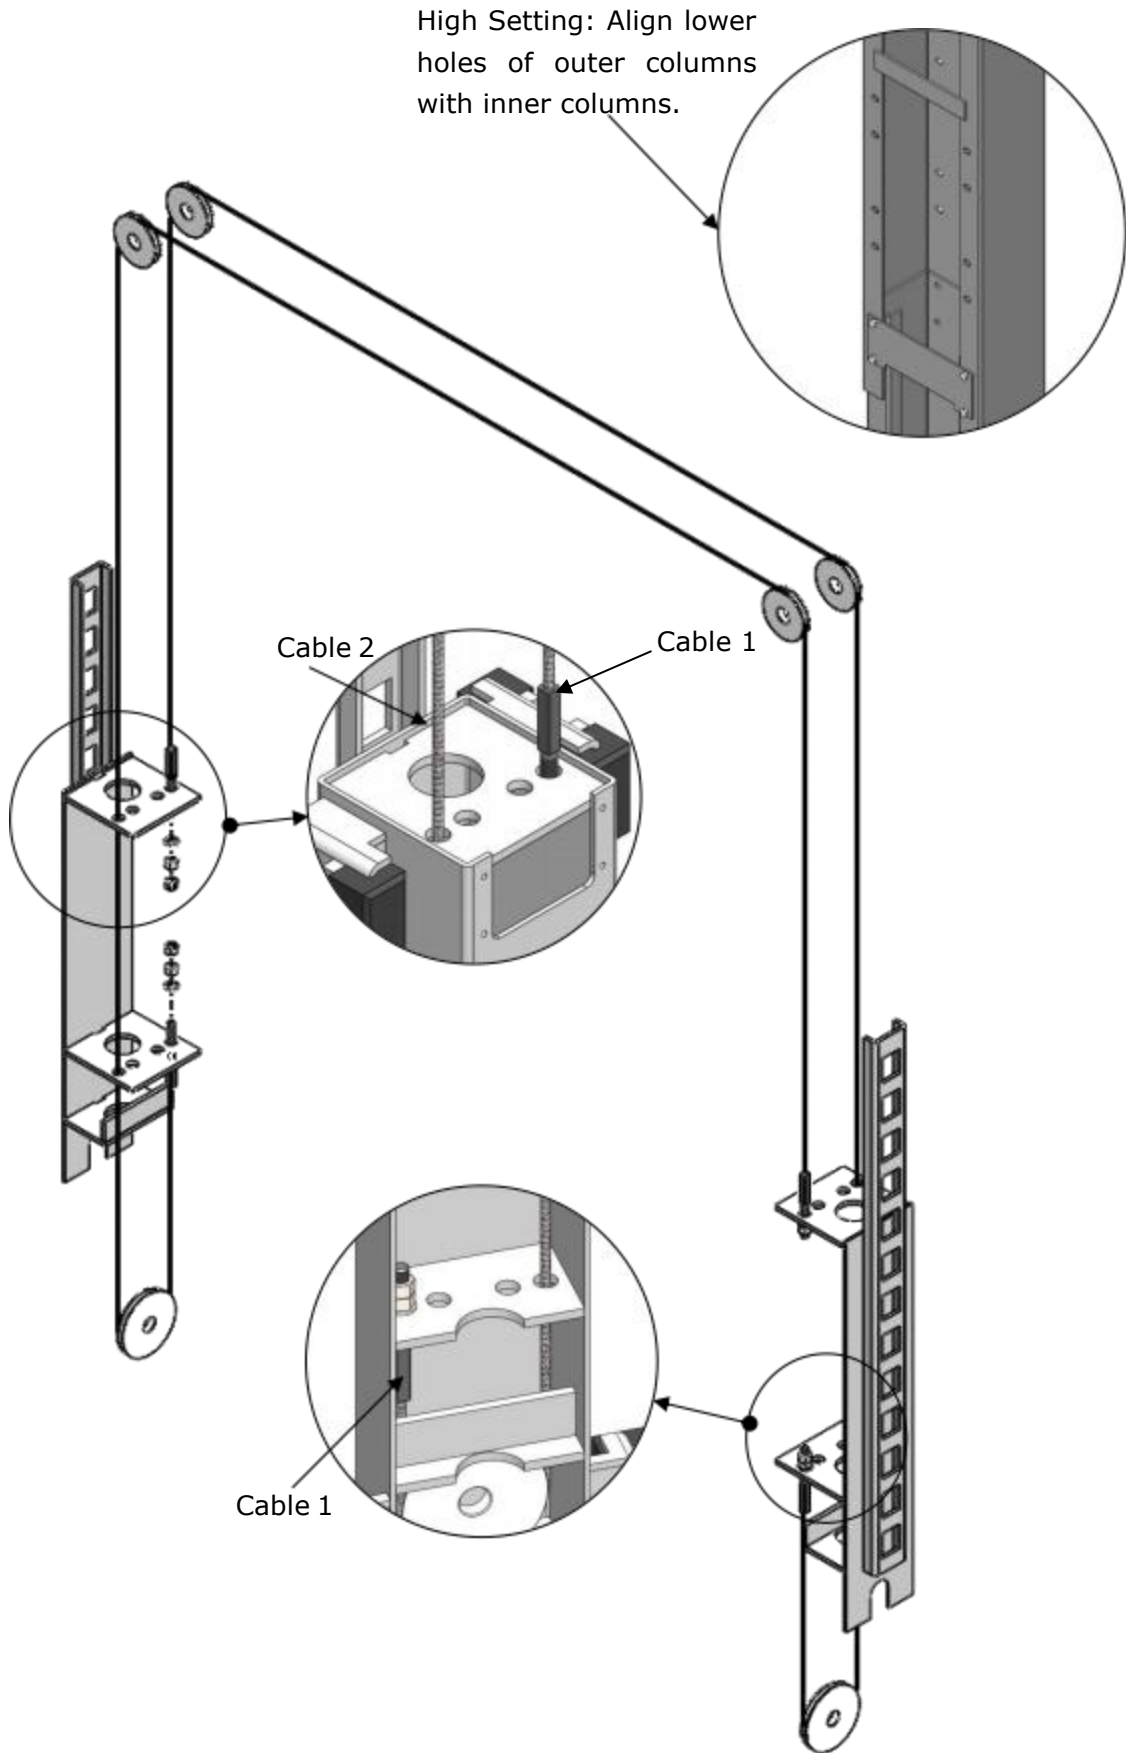

Fig.33
1.2 Connecting cable for high setting (**See Fig. 33**)